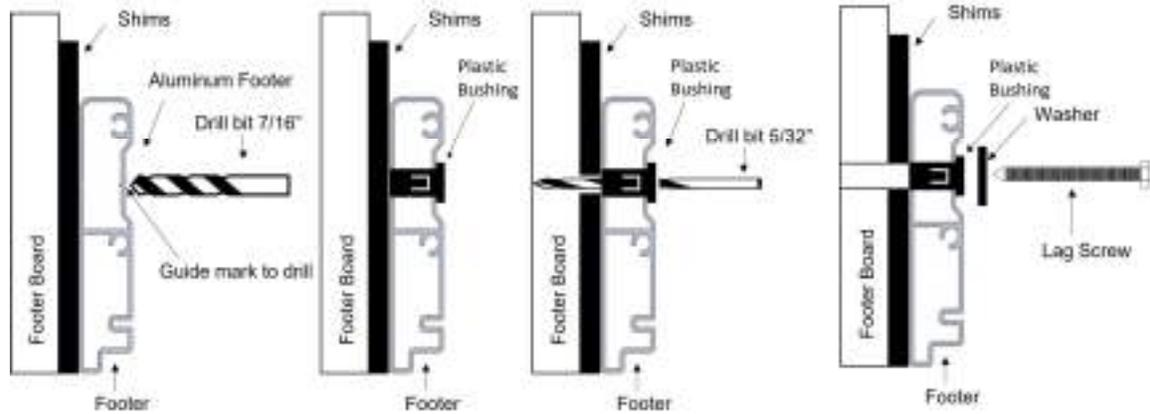

**FIGURE 16 : SHIMMING SIDE FRAME.**
N. Installer #1 and #2: Place shims from above and below (See **Figure 16**) at the 2 pre-drilled holes at position 1 indicated in **Figure 17**. The shims should provide uniform support so there is no twisting or bowing of the aluminum frame. Drill 5/32" diameter by 3" deep pilot holes into the ceiling joist through the bushings at position 1. Install the two lag screws to secure the attic ladder side frames.